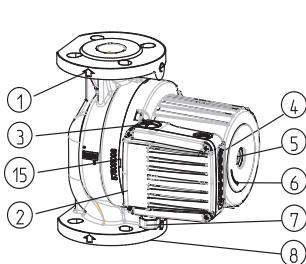
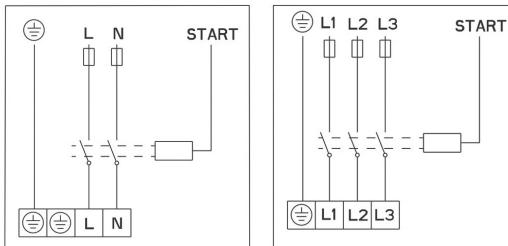

Fig.2
Fig. 4
- Direction of water flow through the pump should match with direction, indicated by an arrow on the pump casing (Fig.2-POS.1).
- The connecting flanges are designed for nominal pressure NP 6/10 (Fig.2 – POS.8).
- GHN (basic, auto), GHNM (basic, auto) pumps have a single hydraulic casing (Fig.2 – POS.8).
The hydraulic casing of the pump can be insulated only to the cleft between the motor and the hydraulic casing. Openings for condensate drainage should remain uncovered and enable the drainage from the stator housing. Similarly, the same openings must be uncovered also in heating systems, when only thermal insulation of hydraulic casing is implemented (Fig. 2, 3, POS. 15). Electric motor casing, on which the openings for condensate drainage are located, under no condition should not be insulated!
The connecting wire has to be connected over a cable entry M20 (Fig.2 – POS.7).
Electrical connections of the pump must be carried out in accordance with the wiring diagram (Fig. 4), attached on the bottom of motor cover. Before doing that unwind the upper cover (Fig. 2 - POS. 2).
In the pumps of types GHN (basic auto), GHND (basic, auto), GHNMD (basic, auto), GHNMD (basic, auto) the rotor is submerged and provided with special water-lubricated bearings. Before putting the pump into operation, it has to be filled with water and deaerated. Degaerate the pump by unscrewing a screw on the back side of the electric motor (Fig.2-POS.5). Air will flow out through the cleft between the motor shaft and the bearing. When water starts to flow out, close the valves at both the suction and pressure side of the pump. Start the pump and check the direction of shaft rotation. In case of a wrong direction a built-in flash lamp will start to blink with red light.
Each pump is able to cover the areas of three hydraulic characteristics. To achieve this, it has an inbuilt electric motor with three different revolution speeds. For achieving the selected characteristics or speeds ① ② ③, the pump has a push button ⏪ (Fig.2-POS. 4), with which we change speeds.
Switch off the pump, close the valve on both pressure and suction sides of the pump, unscrew the vent for deaeration, place the screwdriver (Fig.2-POS.5) in the notch on the shaft and twist as longer as friction forces allow. Then screw the vent for deaeration.